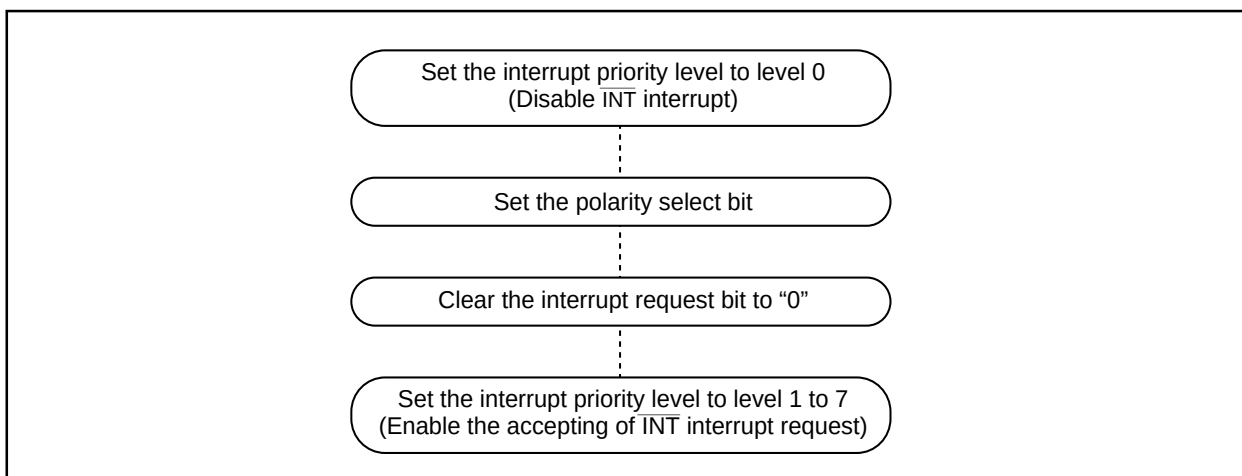

Figure 27.2 Switching condition of INT interrupt request
- When the polarity of the INT0 to INT5 pins is changed, the interrupt request bit is sometimes set to "1". After changing the polarity, set the interrupt request bit to "0". Figure 27.2 shows the procedure for changing the $\overline{\text{INT}}$ interrupt generate factor.